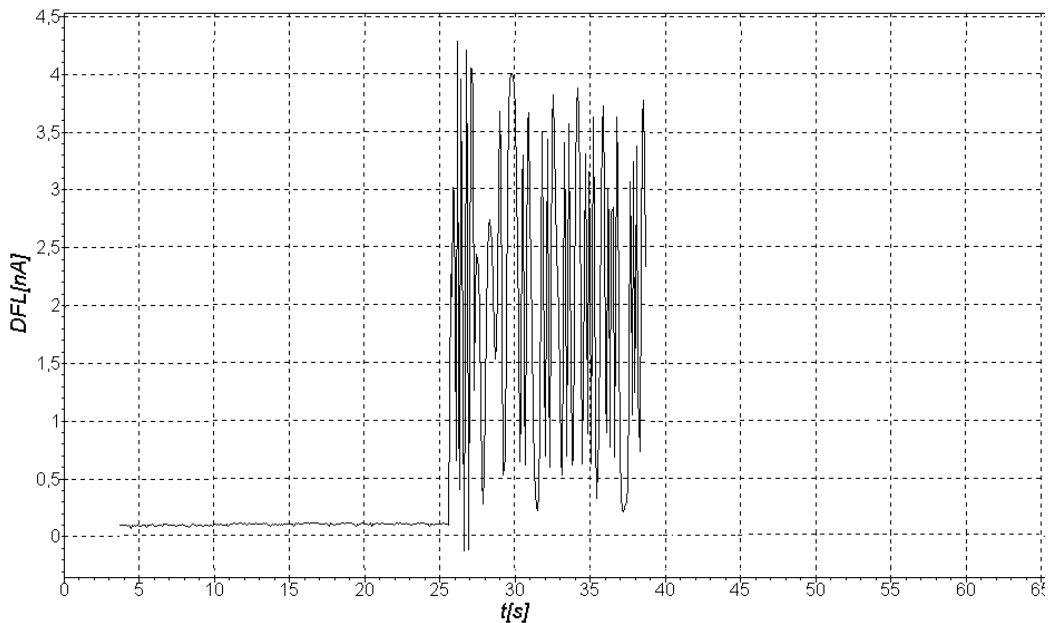

Fig. 3-6
It may happen that after the approach procedure is performed and **DFL** signal is increased to the value of **Set Point** parameter, the **DFL(t)** trace shows a considerable increase of **DFL** signal noise (as shown in Fig. 3-6 for example). This means that an oscillation occurs in the feedback loop due to the fact that the value of **FB Gain** parameter is too high. In this case the value of **FB Gain** parameter should be decreased to 0.5-0.7 of the current value. The procedure of **FB Gain** parameter adjustment is described below in item 3.2.3 “Preparation for scanning” on page 32.